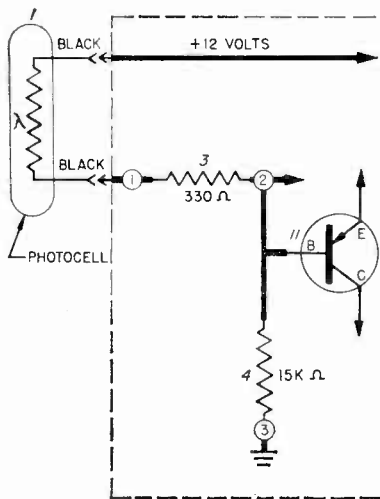

Fig. 3
PHOTOCELL CIRCUIT (See Fig. 3, page 18). The voltage for the photocell (1) is supplied through the ignition switch, a fuse, and the "manual-automatic" switch so that both must be on for the "Twilight Sentinel" to operate. The cell is connected in series with resistors (3) and (4) to ground. With a bright light on the photocell (1) its internal resistance is low (approximately 300 ohms). As the amount of light striking the photocell (1) decreases, the internal resistance increases. This causes the current flow to decrease and lowers the voltage at the base of the transistor (11).